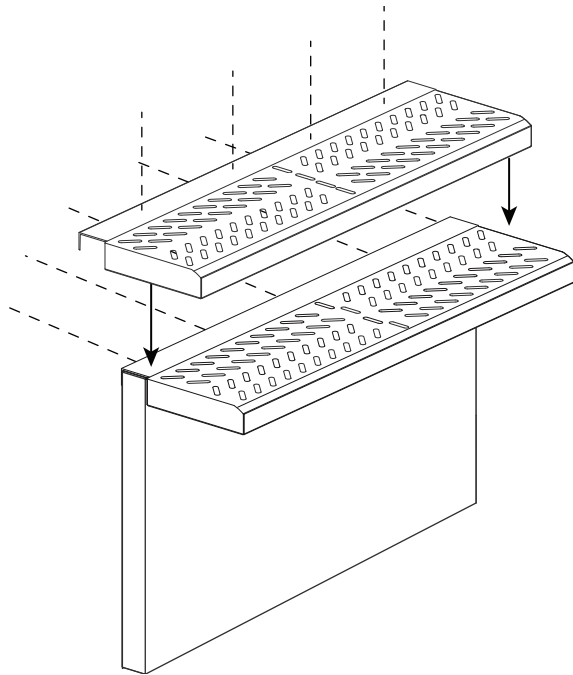

Figure 20: High Shelf Assembly
3. Install the included stainless screws along the top side of shelf and into the back of the shelf (Figure 20).